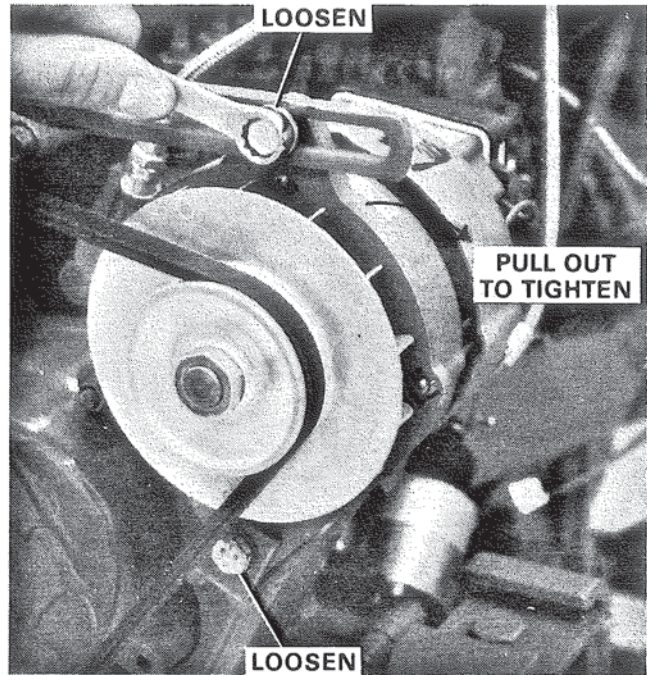

Figure 23. Adjusting Belt Tension.
1. Loosen alternator and mounting screws. Figure 23.